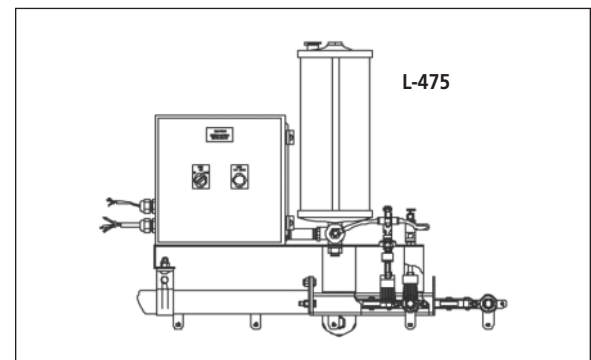

Figure 18
- Shot or mist lubricators are recommended for long systems operating through ovens in excess of 200°F. **Pacline** model L-375, L-475, L-565 and L-575 can be used in these applications. (See **Figures 18 and 19**)